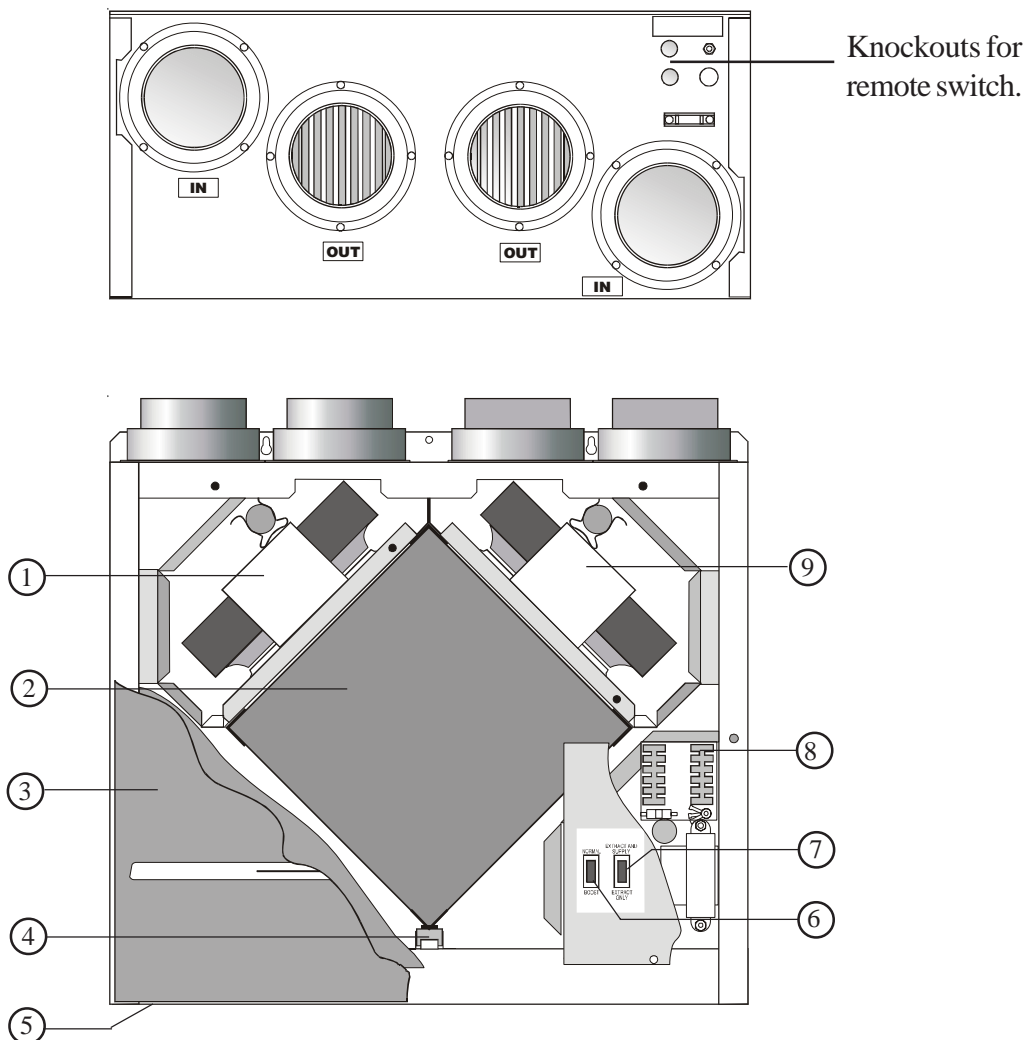

Fig. 1
2.9.4 Referring to Fig. 1, remove the front decor panel and gain access to the electrical panel by removing the electrical panel cover.